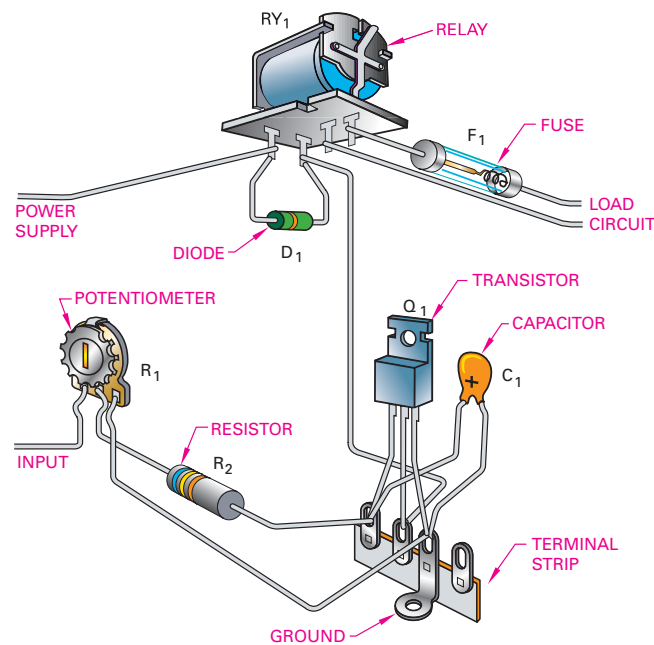

Figure 20-20
3. Draw a schematic diagram from the pictorial shown in **Figure 20-20**.